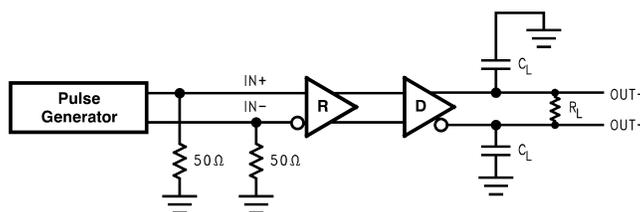
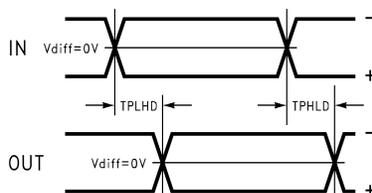
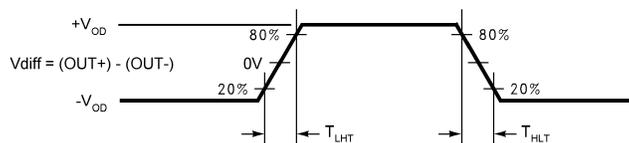

Figure 5. BLVDS Output Load
Figure 6. Propagation Delay Low-to-High and High-to-Low
Figure 7. BLVDS Output Transition Time
| t_{PHLD} | Differential Propagation Delay High to Low ⁽²⁾ | $V_{ID} = 200mV$, $V_{CM} = 1.2V$, $R_L = 27\Omega$ or 50Ω , $C_L = 15pF$ See Figure 5 and Figure 6 | 1.0 | 1.4 | 2.0 | ns |
| t_{LHT} | Rise Time ^{(3) (2)} 20% to 80% points | $R_L = 50\Omega$ or 27Ω , $C_L = 15pF$ See Figure 5 and Figure 7 | 0.350 | 0.6 | 1.0 | ns |